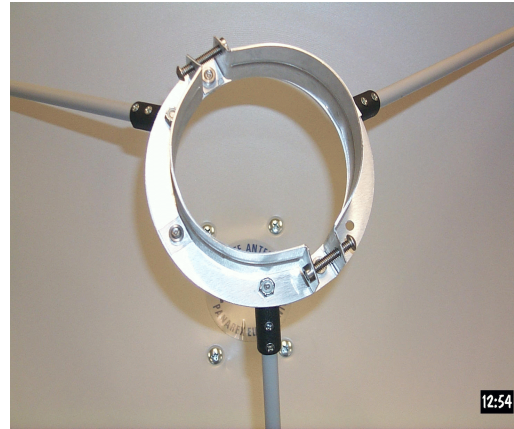

Figure 5 LNA Mounting Ring Assembly
- a. Attach the LNA mounting ring assembly (see **Figure 5**) to the reflector ensuring the assembly is tightened securely.